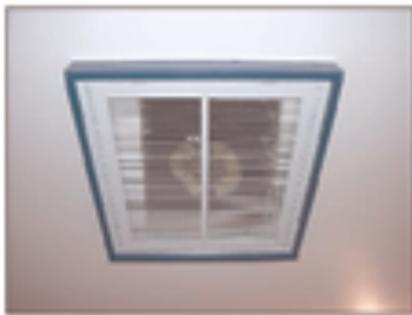

Figure 4.6a — Silent duct boot, grille closed
- Where the duct normally terminates in the wall or ceiling opening, consider an oversized boot instead. Some pictures of a ductboard boot we built for one of our labs are shown in Figures 4.6a and b. We used 6" round, flexible, insulated duct that terminated into a ductboard box roughly 17" long x 12" wide x 13" deep (into the ceiling). The whole boot should be caulked airtight and isolated from the wall by SheetBlok or foam tape to keep from transferring mechanical energy to the wall and making it resonate.